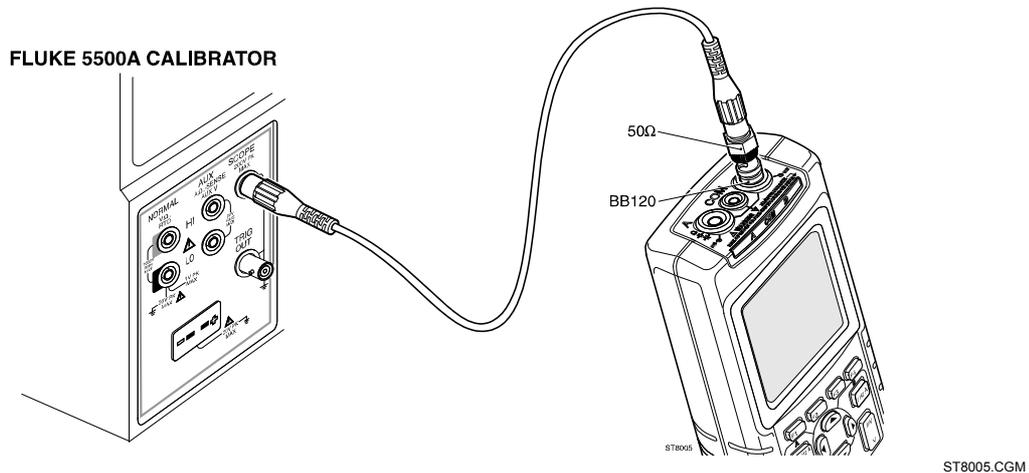

Figure 5-5. 5500A Scope Output to Input B
2. Connect the test tool to the 5500A as shown in Figure 5-5.